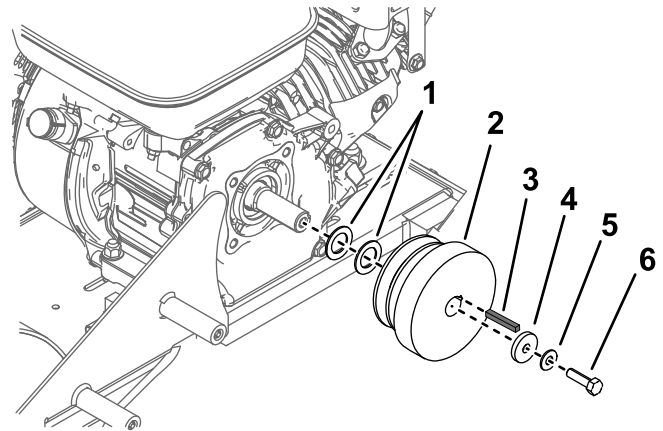

**Figure 9**
4. Apply thread-locking compound to the bolt (1/4 x 3/4 inch) and use the bolt, washer (0.27 x 0.89 x 0.09 inches), and square key to install the front pulley, with the pulley face flush with the end of the shaft (Figure 9). Torque the bolt to 13.6 N·m (120 in-lb).
5. Apply thread-locking compound to the set screw, and secure the pulley with the set screw, washer (0.27 x 0.89 x 0.09 inches), and bolt (1/4 x 3/4 inch) as shown in Figure 9. Torque the setscrew to 14.9 to 17.6 N·m (132 to 156 in-lb).